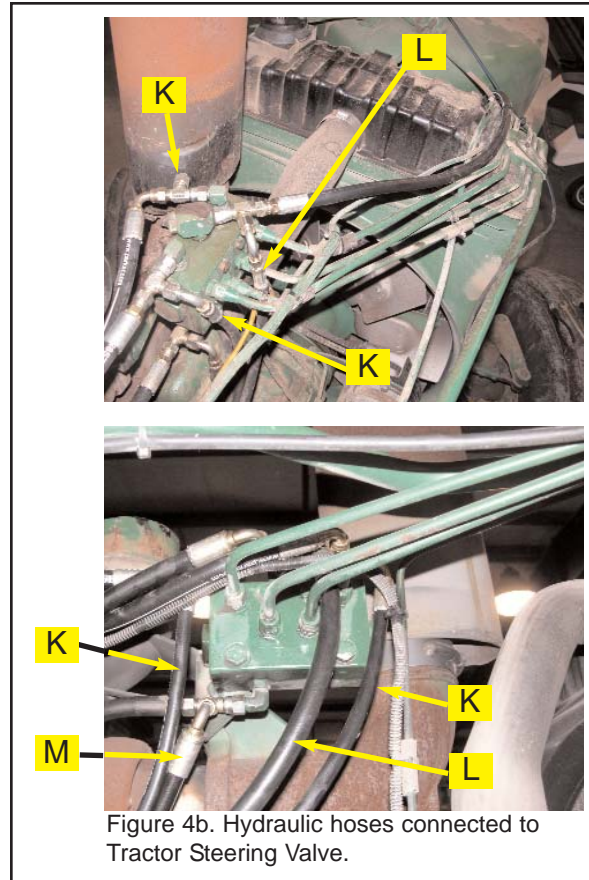

Figure 4b. Hydraulic hoses connected to Tractor Steering Valve.
**NOTE:** The hose ends with the 90-degree elbows will be installed at the run-tees as shown. (Figure 4b.)